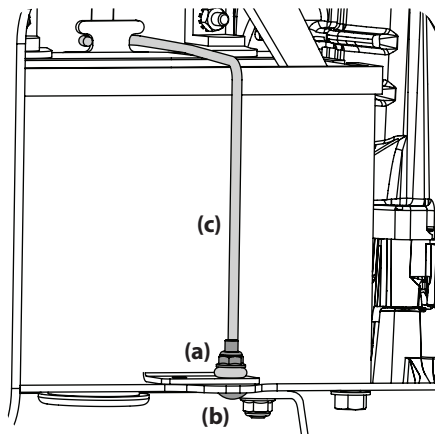

Figure 11
1. Remove the flange lock nut (a) and carriage screw (b) holding the battery hold-down bracket (c) in place. See Figure 11.